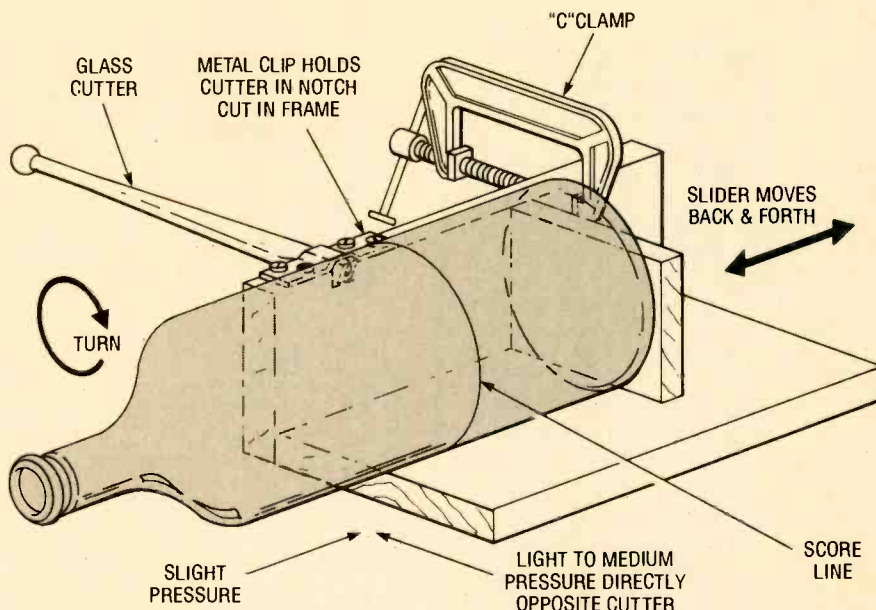

Fig. 4. Starting with a clean and totally dry bottle, score the bottle lightly and evenly, with the end of the score line meeting its beginning.
**Cutting Technique.** Cutting bottles does involve a little skill. First make sure the bottle is clean and totally dry. Score the bottle lightly and evenly (see Fig. 4). A deep score line actually is self-defeating as more paths are created for the crack to follow. Scores must meet at the ends. Once the bottle has been scored, turn on the power to the heating element, and allow 6 to 8 seconds for the element to reach operating temperature.